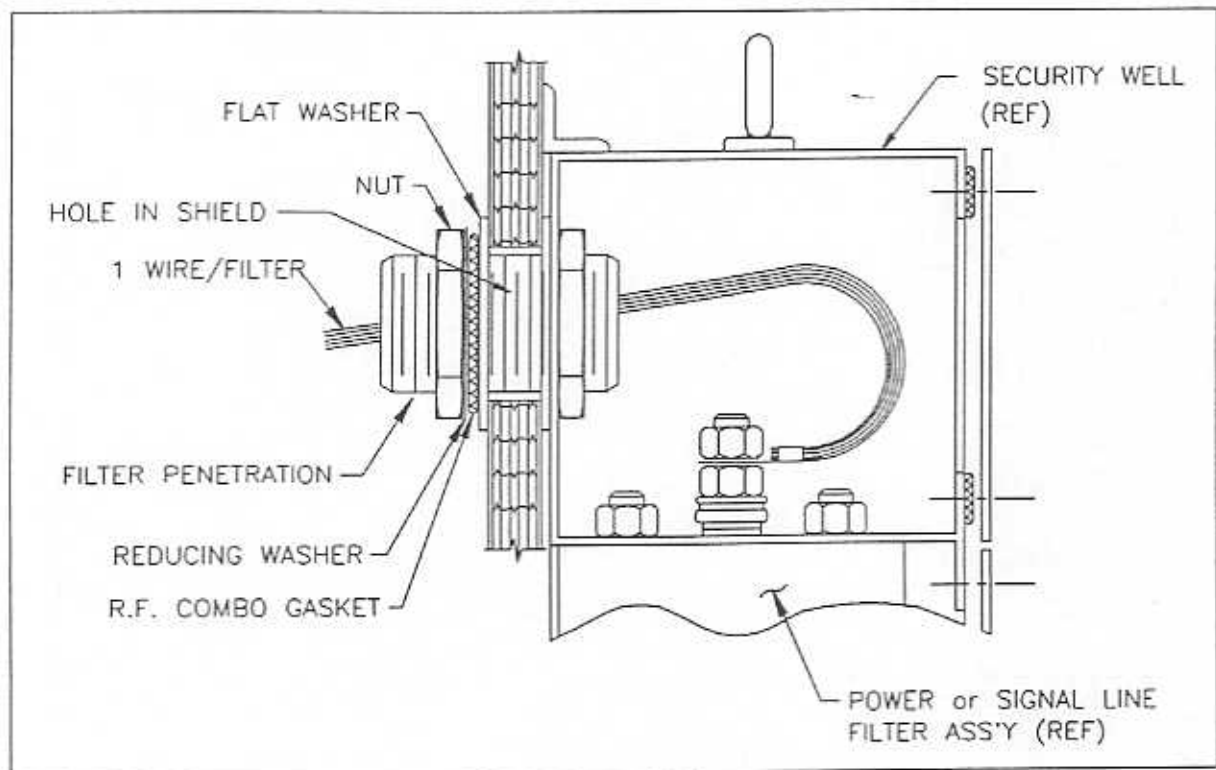
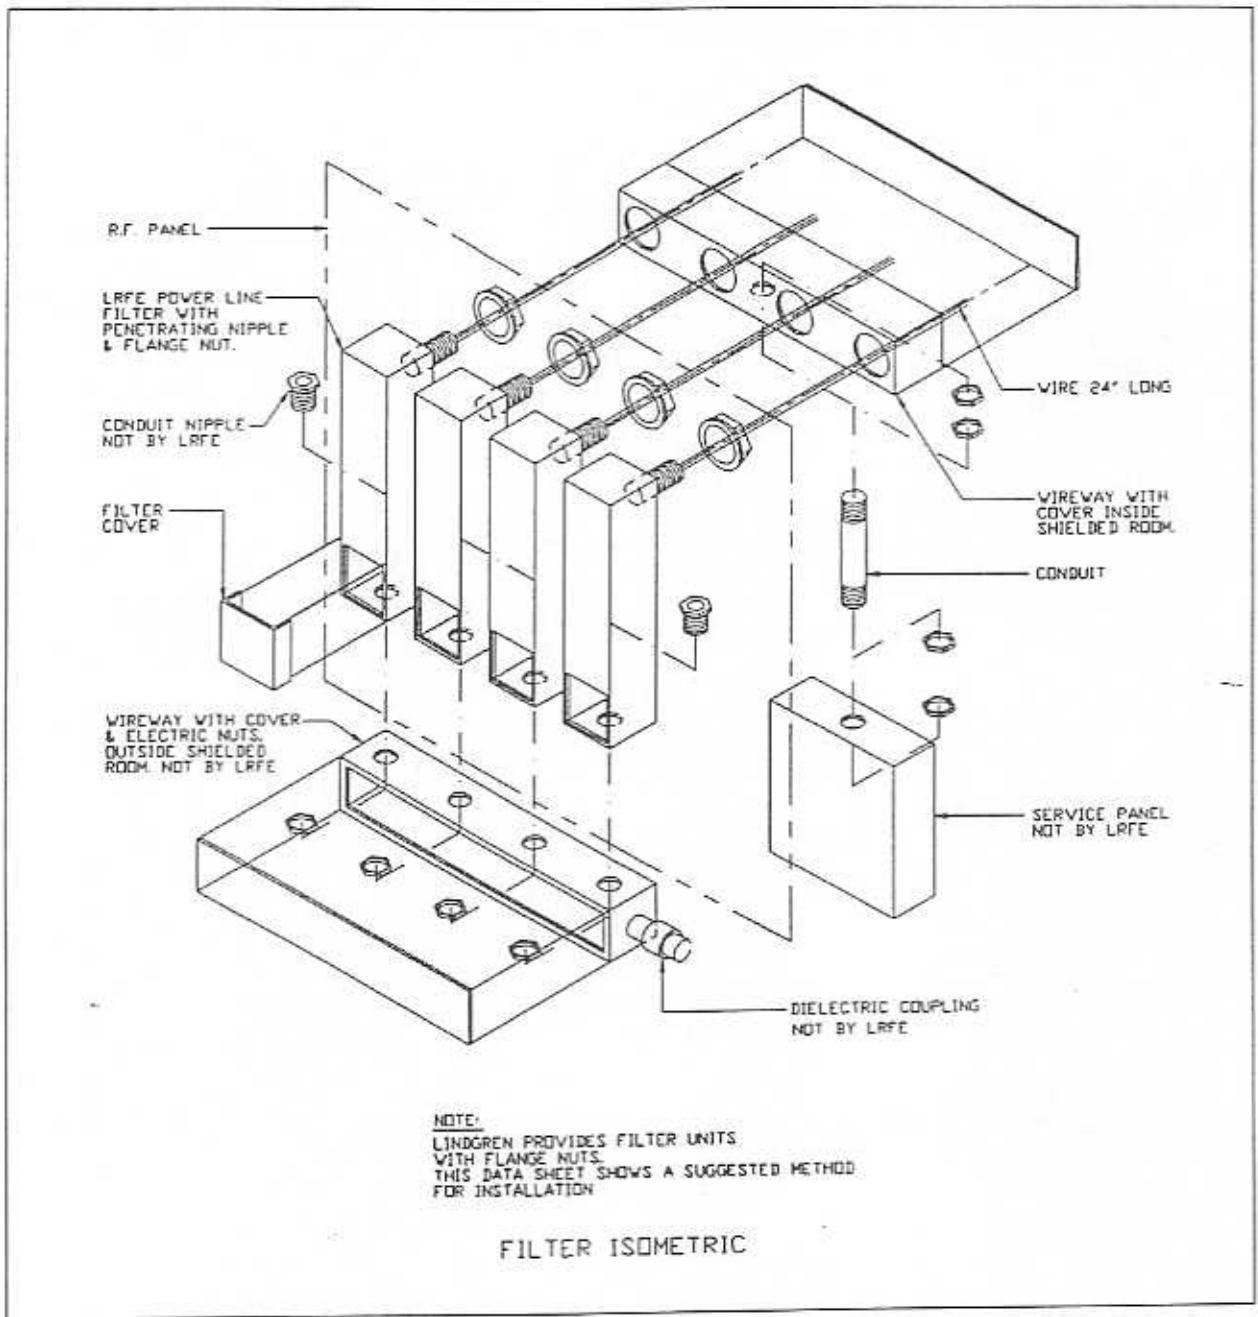

FIGURE 5: ELECTRICAL FILTER SECTION
FIGURE 6: MULTIPLE FILTERS INSTALLATION
The flange nut must be tightly secured, as in addition to supporting the filter, it provides the electrical bonding of the filter to the shield. See Figure 5. The filter flange may never be used to secure any other item to the wall. See Figure 6 for multiple filters installation.
3. Filters are located in the field, usually at the instructions of the general contractor or electrical contractor. A 1-5/16" hole must be drilled for each standard W type filter in the appropriate panel. Refer to Figures 5 & 6 for complete instructions.